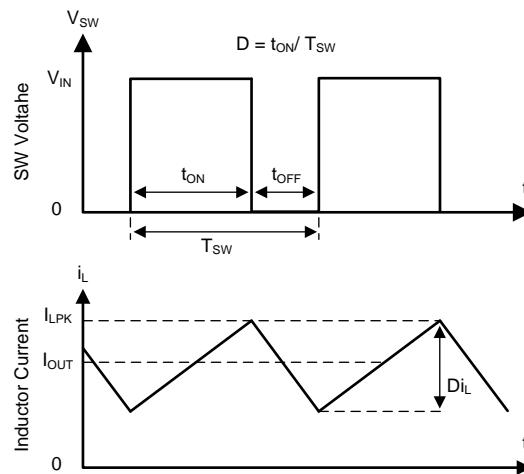

Figure 13. SW Node and Inductor Current Waveforms in Continuous Conduction Mode (CCM)
The following operation description of the TPS560430 will refer to the Functional Block Diagram and to the waveforms in Figure 13. TPS560430 is a step-down synchronous buck regulator with integrated high-side (HS) and low-side (LS) switches (synchronous rectifier). The TPS560430 supplies a regulated output voltage by turning on the HS and LS NMOS switches with controlled duty cycle. During high-side switch ON time, the SW pin voltage swings up to approximately V_{IN} , and the inductor current i_L increase with linear slope $(V_{IN} - V_{OUT}) / L$. When the HS switch is turned off by the control logic, the LS switch is turned on after an anti-shoot-through dead time. Inductor current discharges through the low-side switch with a slope of $-V_{OUT} / L$. The control parameter of a buck converter is defined as Duty Cycle $D = t_{ON} / T_{SW}$, where t_{ON} is the high-side switch ON time and T_{SW} is the switching period. The regulator control loop maintains a constant output voltage by adjusting the duty cycle D. In an ideal Buck converter, where losses are ignored, D is proportional to the output voltage and inversely proportional to the input voltage: $D = V_{OUT} / V_{IN}$.